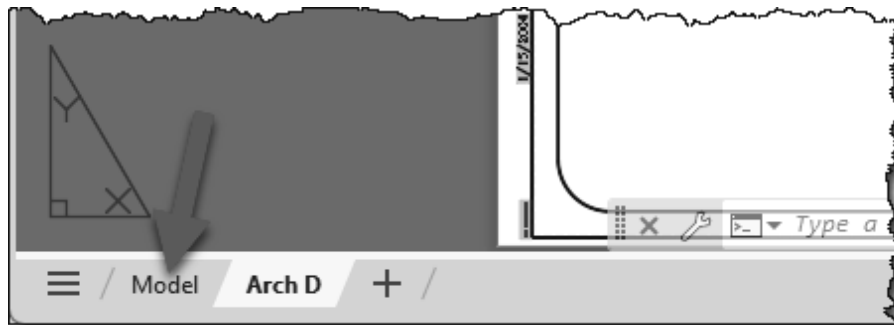

FIGURE 2-1.3 Switching to Model space
5. In the lower-left corner of the screen, click the **Model** tab to switch to *Model Space* (which is where all the drawing is done as previously mentioned); see Figure 2-1.3.